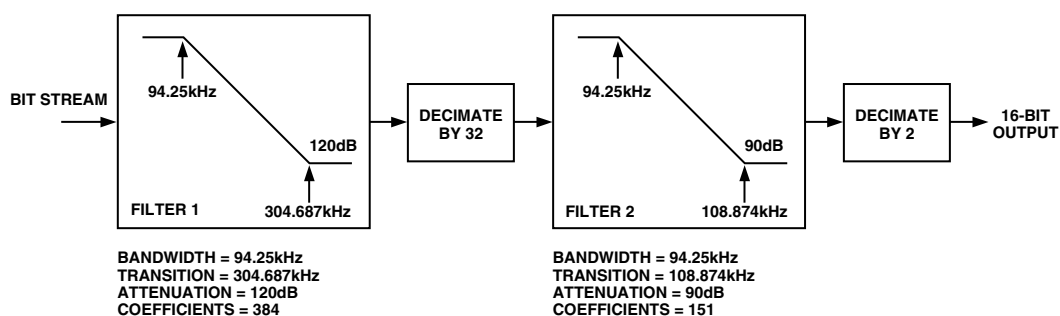

Figure 1. Digital Filter (Consists of Two FIR Filters). This Filter is Implemented on the AD7722.
**TERMINOLOGY (IDEAL FIR FILTER USED WITH AD7724 [FIGURE 1])****Integral Nonlinearity**